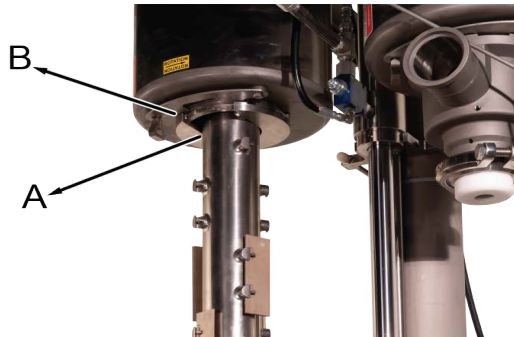

Figure 81 Installed Shaft Stop Clamp
5. Close the locking bayonet latch. (See Figure 81, Item B)